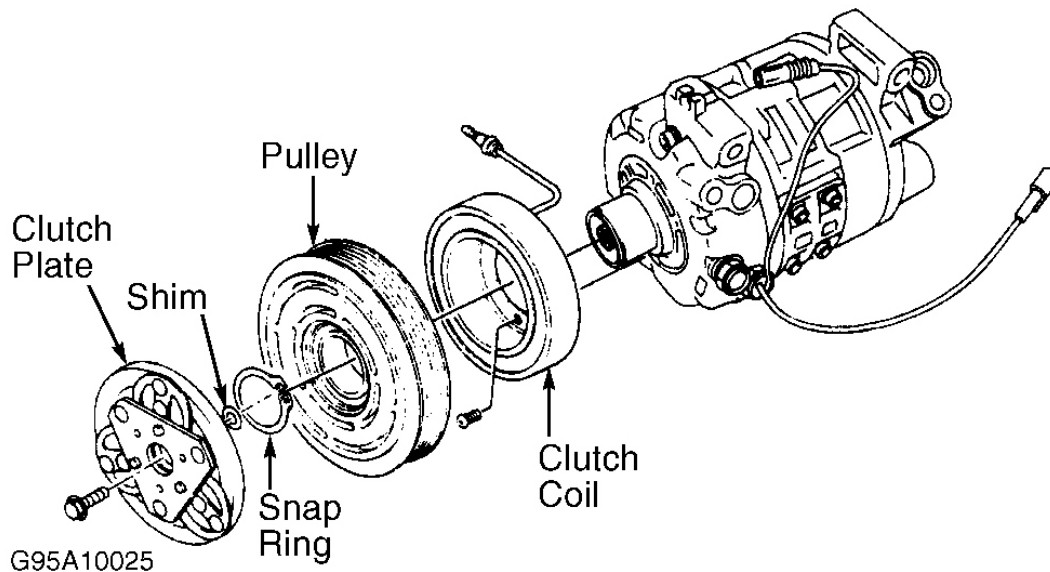
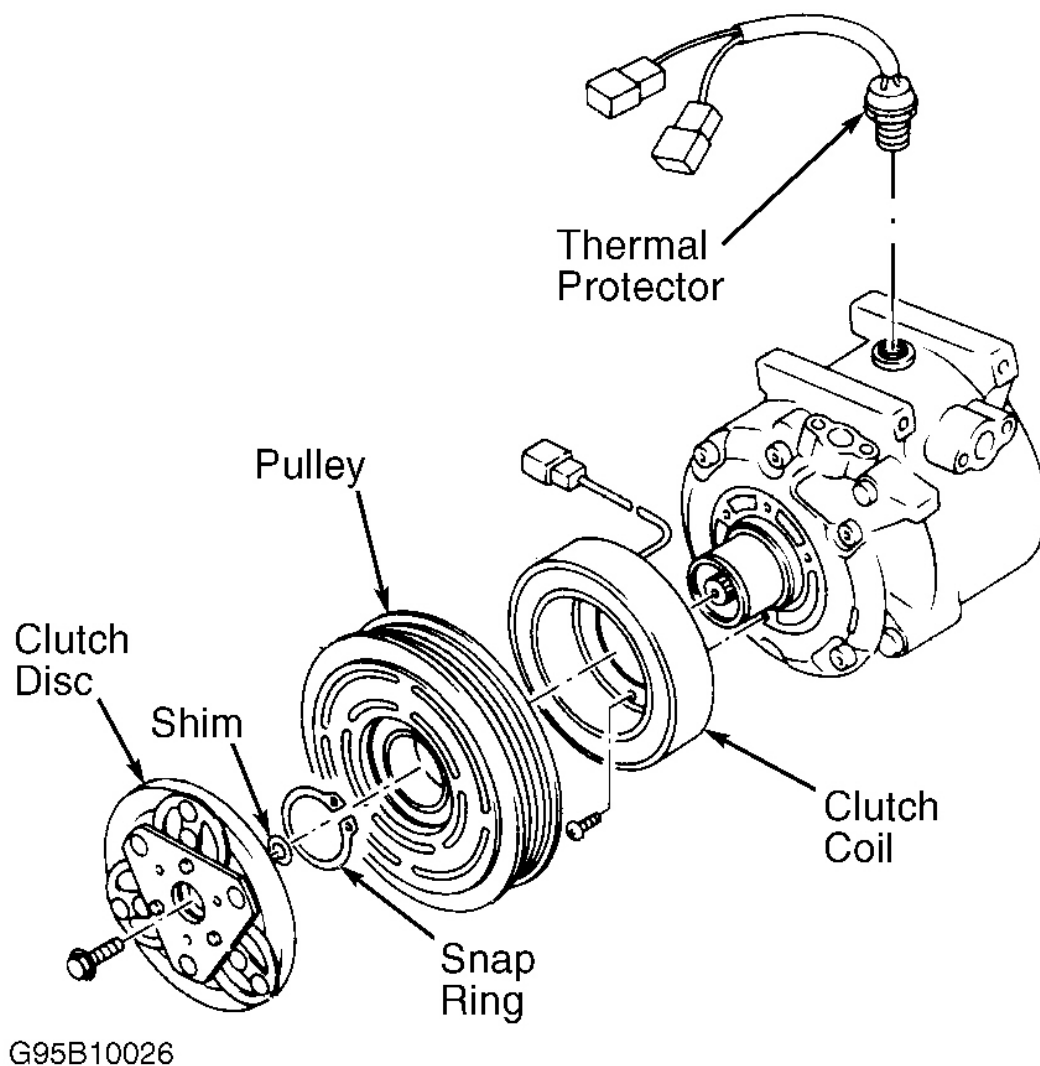

Fig. 15: Exploded View Of Compressor (Zexel DKV-14D Rotary Vane)
Fig. 16: Exploded View Of Compressor (Zexel DKV-14C Rotary Vane)
1. Using clutch disc/plate holder, remove clutch disc/plate bolt. Using puller and forcing screw, remove clutch disc/plate. See **Fig. 15** or **Fig. 16** .
2. Remove snap ring. Remove pulley using Pilot (J-39023) and universal 2-jaw puller. Position puller jaws onto edge of pulley to prevent pulley groove from being deformed. Remove clutch coil lead, 3 clutch coil retaining screws, and clutch coil. See **Fig. 15** or **Fig. 16** .